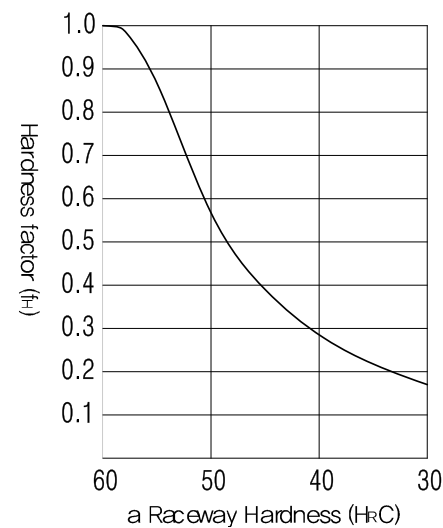

Fig1 Hardness factor (fH)
**P** : Applied load      **fH** : Hardness factor (see Fig 1)